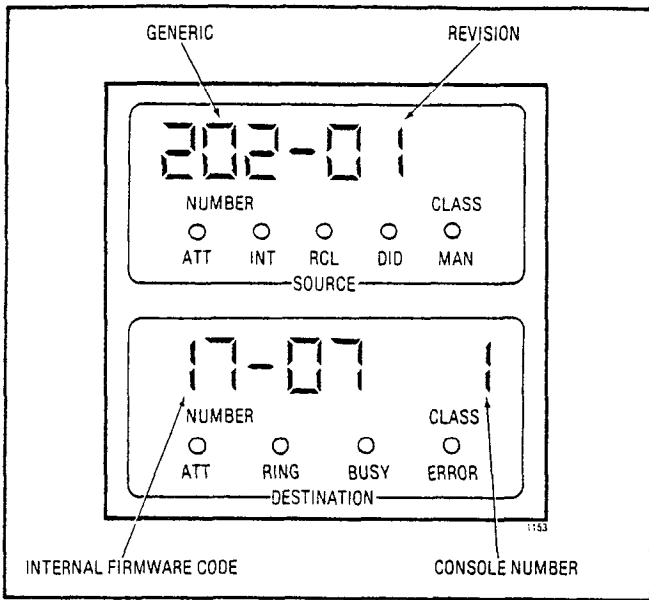

Fig. 4-3 Typical Identification Display
4.13 IDENT: Pressing the IDENT key when the console is idle causes the console to display the firmware generic number and the revision level in the SOURCE display; and the internal firmware code and the console number (0 for Programming/Maintenance; 1 for Attendant Console 1, and 2 for Attendant Console 2) in the DESTINATION display (Fig. 4-3).